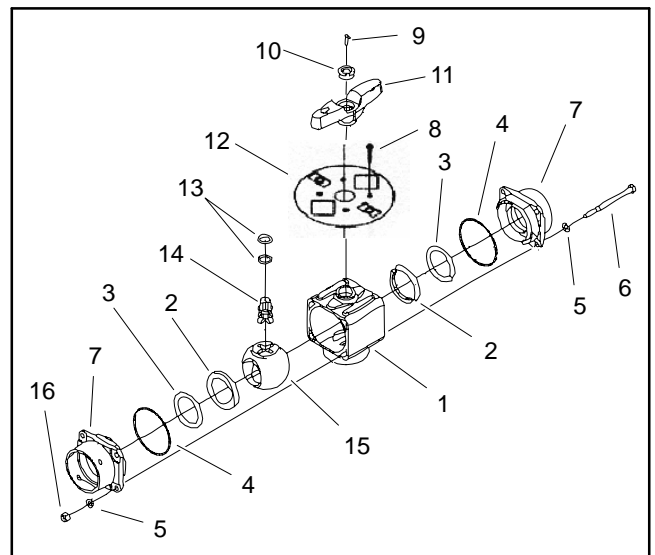
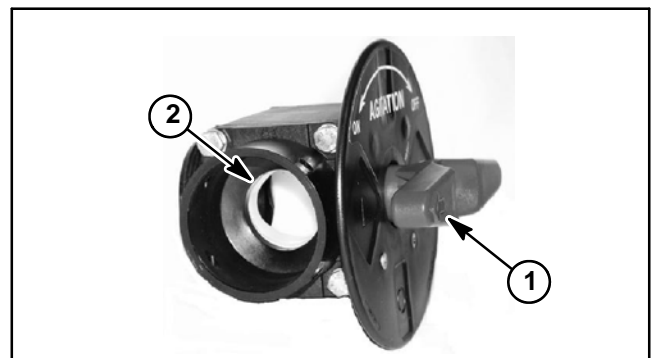

Figure 18
Figure 19
4. Disassemble agitation valve as required (Fig 18).
1. Assemble agitation control valve (Fig 18). Align arrow on valve handle with large hole in valve ball during assembly (Fig. 19).